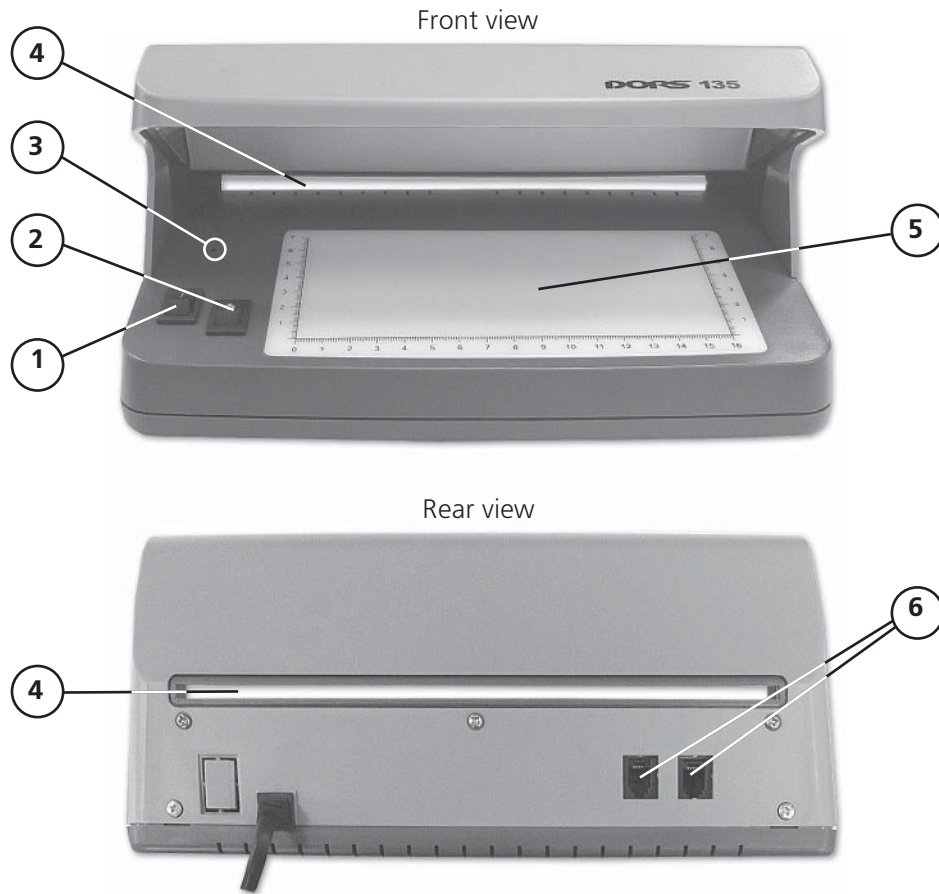
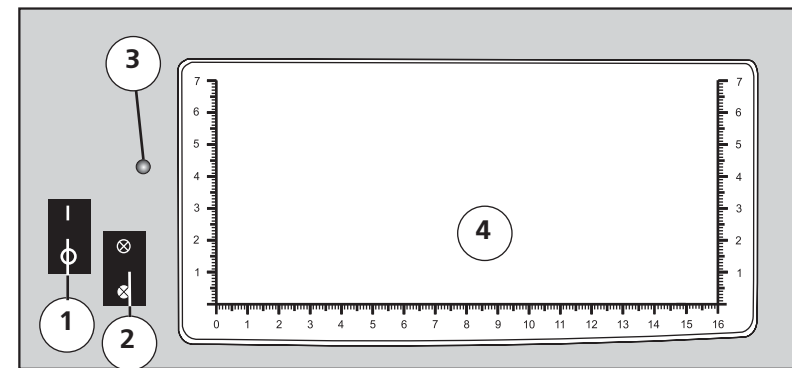

Fig. 1
Fig. 2
1. Connect the detector to the wall outlet (220V, 50 Hz). Power switch indicator (fig. 1, pos. 3) will switch on. Switch the detector on with the **Power switch** on the back side of the detector (fig. 1, pos. 1) – the viewing zone (fig. 2, pos. 4) lightens blue or white, depending on the switch position "UV/white light".
3. Use the UV/white light switch on the front panel (fig. 2, pos. 2) to choose:
2. Place one or several banknotes at the front panel of the detector within the viewing zone (fig. 2, pos. 4).